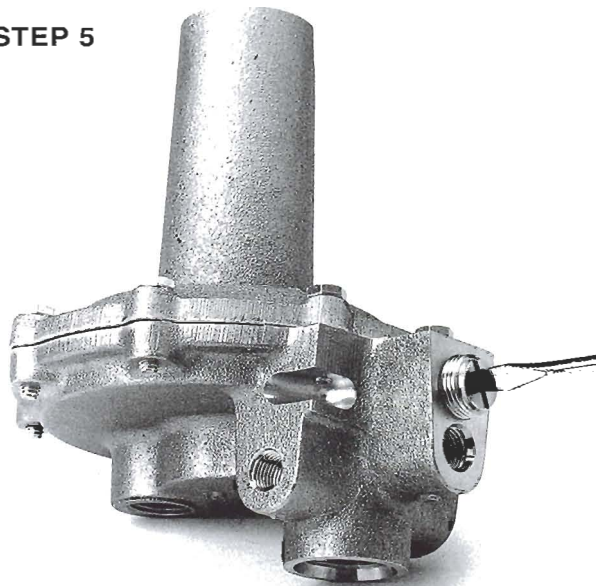

Figure 20. Remove the Threaded Retainer Plug.
5. Unscrew and remove the threaded Retainer Plug on the side of the Series 20L pilot just above the outlet port (refer to Figure 20).